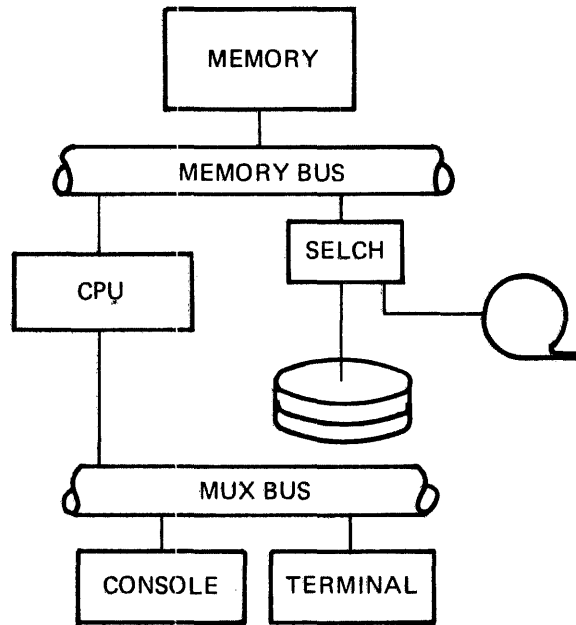

Figure 1-1 Configuration of a Typical Uniprocessing System
- A standard processor for a uniprocessing system. Figure 1-1 depicts the configuration of a typical uniprocessing system.